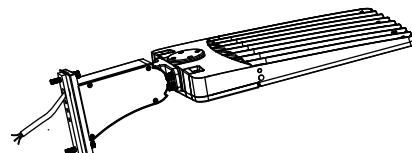

Figure 4
- Step 2: Install the bracket on the fixture, then cover the side lid and tighten (Figure 4)